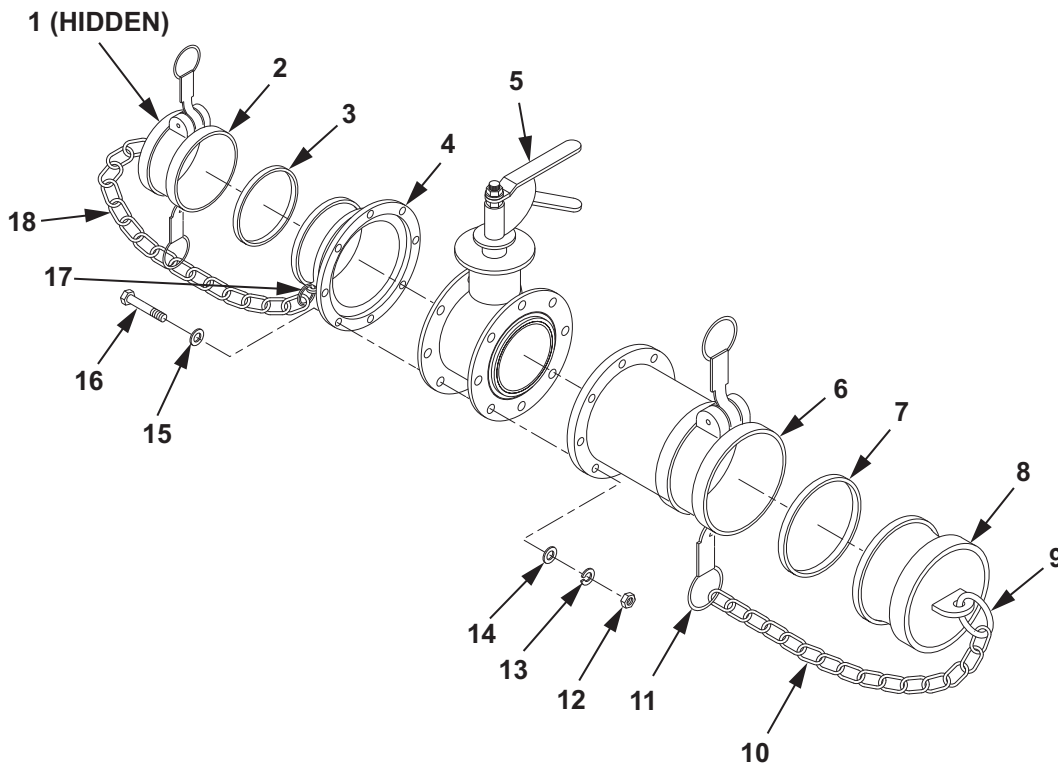

Figure 2. Butterfly Valve Assembly.
1. Install split rings (Figure 2, Item 1, 17) on chain (Figure 2, Item 18).
2. Install split rings (Figure 2, Item 1, 17) on coupling (Figure 2, Item 4) and quick disconnect dust cap (Figure 2, Item 2).
3. Install split rings (Figure 2, Item 9, 11) on chain (Figure 2, Item 10).
4. Install split rings (Figure 2, Item 9, 11) on quick disconnect dust plug (Figure 2, Item 8) and coupling (Figure 2, Item 6).
5. Install new gasket (Figure 2, Item 7) in coupling (Figure 2, Item 6).
6. Install eight screws (Figure 2, Item 16) and washers (Figure 2, Item 15) through coupling (Figure 2, Item 4), butterfly valve (Figure 2, Item 5) and coupling (Figure 2, Item 6).
7. Install eight washers (Figure 2, Item 14), new lockwashers (Figure 2, Item 13) and nuts (Figure 2, Item 12) on screws (Figure 2, Item 16). Hand tighten eight nuts (Figure 2, Item 12).
8. Using torque wrench and adapter, torque eight nuts (Figure 2, Item 12) to 37–43 ft lb (50–58 N·m).
9. Install quick disconnect dust plug (Figure 2, Item 8) and gasket (Figure 2, Item 7) on coupling (Figure 2, Item 6).
10. Install quick disconnect dust cap (Figure 2, Item 2) and new gasket (Figure 2, Item 3) on coupling (Figure 2, Item 4).